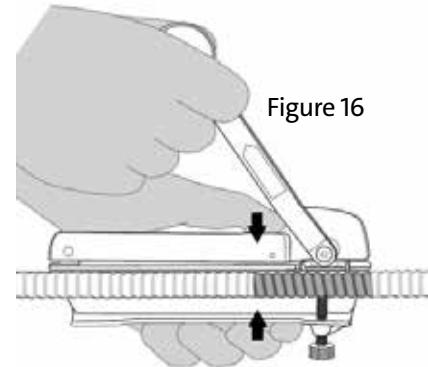

Figure 16
- Step 7:** Holding the tool near the cutting head, squeeze the tool to bring the cutting blade against the armor, and rotate the crank handle (Figure 16). When the force required to rotate the crank handle suddenly decreases, the cut is complete. Back off the thumbscrew and remove the cable.